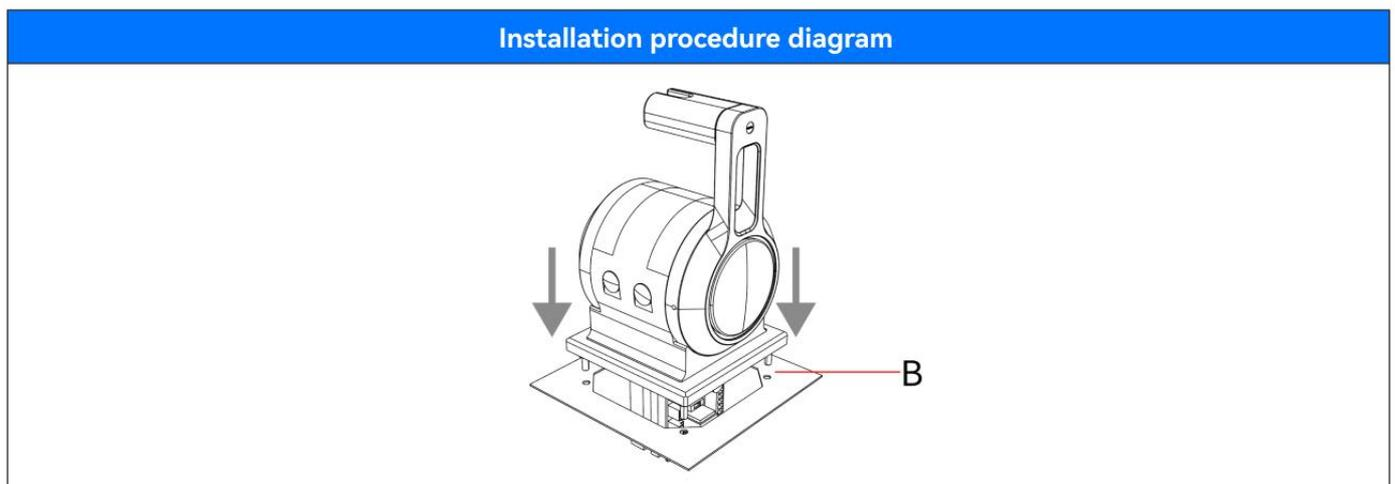

Figure 3.2
2. Place the handle vertically in the opening of the mounting plate as shown in the lower right corner of Figure 3.2, and align the screw with the hole B. Rotate or tilt the handle into the hole when it meets the protruding part.